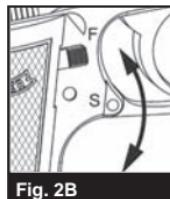

Fig. 2B
- Push the safety up, pointing to the "F" position (**Fig. 2B**). When you can see the RED dot the airgun is "OFF SAFE" and can be fired.